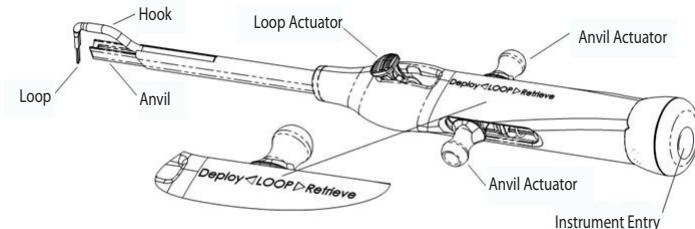

Fig. 2: The ArthroTunneler™ device
- Cat. # SMB000101 Arthroscopic Transosseous Tunneling Device - see figure 2 below